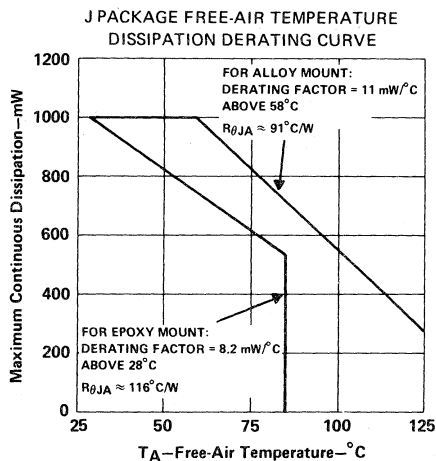

FIGURE 1
2. For operating above 25°C free-air temperature, see Dissipation Derating Curves, Figures 1 and 2. In the J package, SG1525A and SG1527A chips are alloy mounted; SG2525A, SG2527A, SG3525A, and SG3527A chips are epoxy mounted.